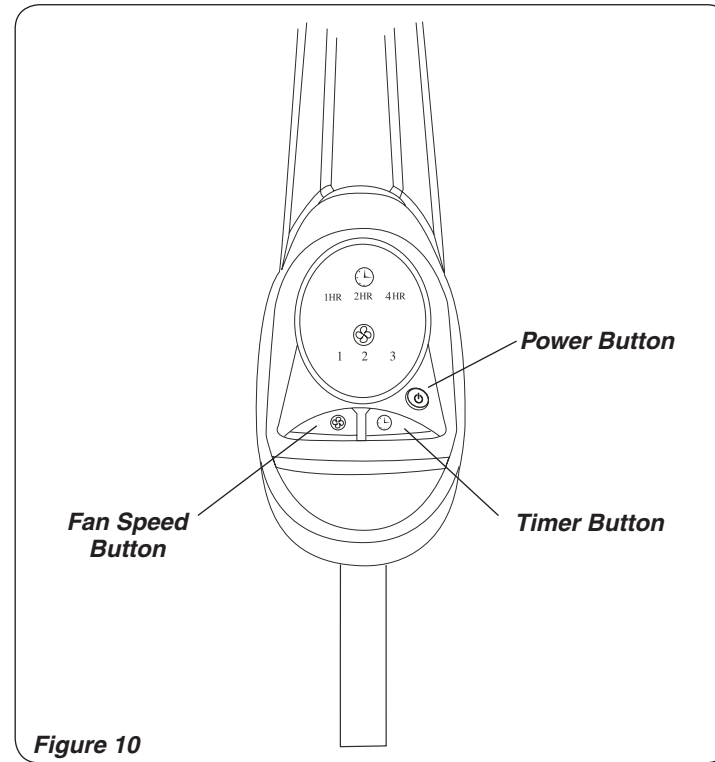
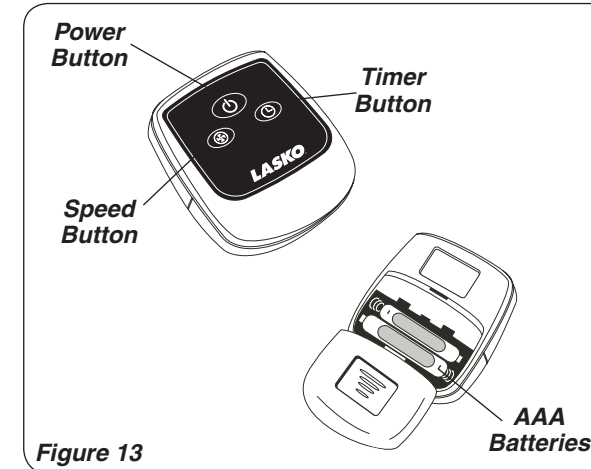

Figure 10
Figure 13
This Fan may be operated by the Manual Controls located on front of the unit (as shown in **Figure 10**) or by the Remote Control (shown in **Figure 13**).
1. Install batteries (not supplied) as shown in **Figure 13**. The battery is size “AAA”.